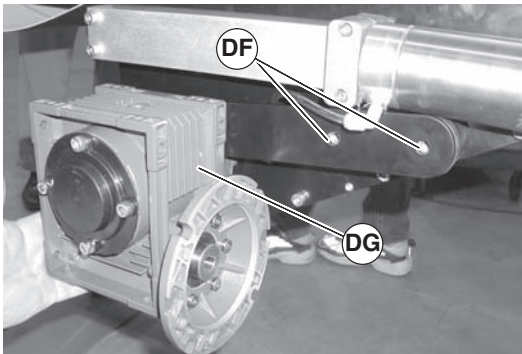

Figure 96
3. Remove screws (Figure 96, item DF) and remove gearmotor (DG) (Gearhead shown with motor removed for clarity, motor can remain attached to gearhead).